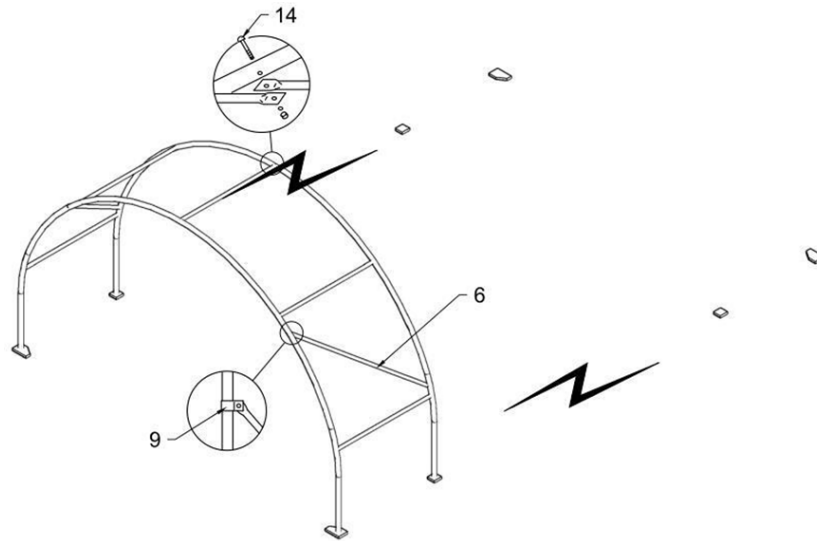

Figure 8
3. Connect the diagonal bracing tube (component code 6) between the lower bent tubes of the arches using clips (component code 9), as shown in *Figure 8*, and adjust the length as required.